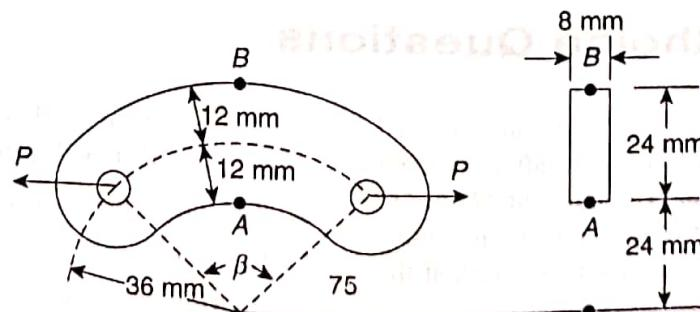

Figure 17.27
5. A steel link of rectangular section 24 mm \times 8 mm is shown in Fig. 17.27. If the angle $\beta = 90^\circ$ and the allowable stress in link is 100 MPa, determine the largest value of P which can be applied on the link.